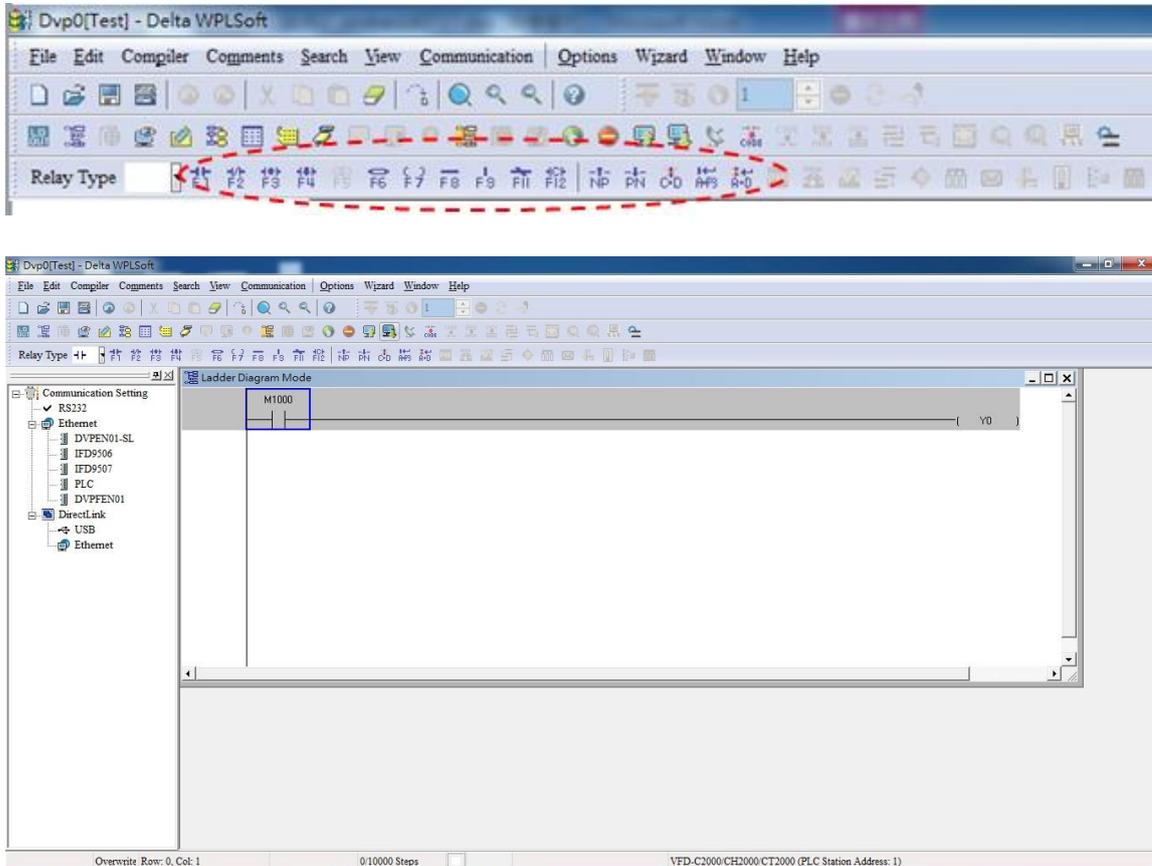

Figure 16-16
**NOTE:** In the ladder diagram mode, you can use the buttons on the function icon row on the toolbar (see Figure 16-16) to edit the programs.